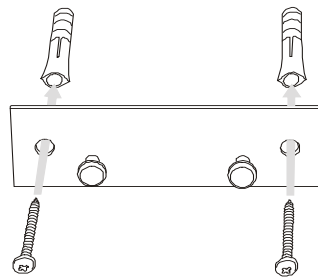
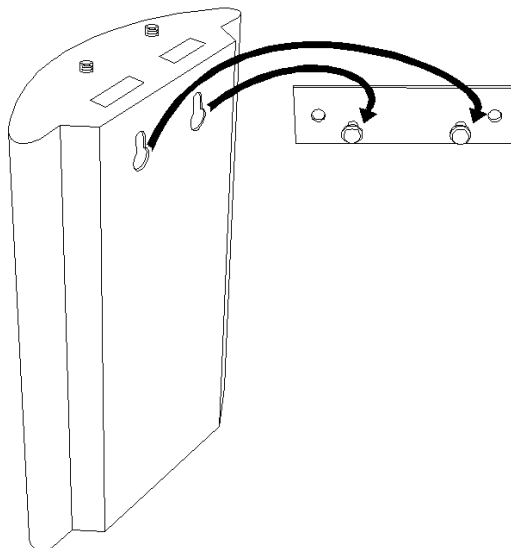

Fig. 3 – Gateway Holder Wall-Mounting
Fig. 4 – Gateway Hanging
- The 2N® BRI Enterprise is designed for mounting on a vertical surface. For this purpose a wall-mounting holder is available. Just fit the holder with dowels and screws (Fig. 3) to the wall and hang the gateway as shown in Fig. 4.